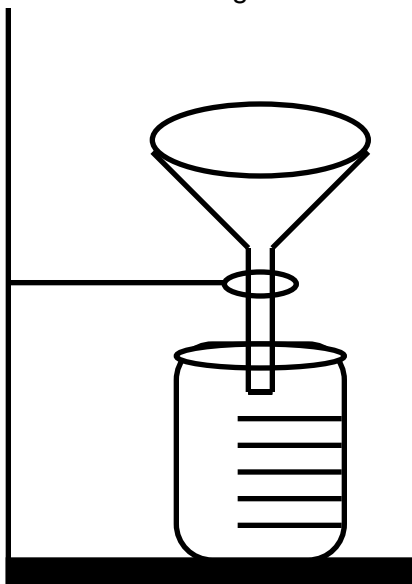

Figure 1
2. Set up the apparatus as shown in Figure 1.